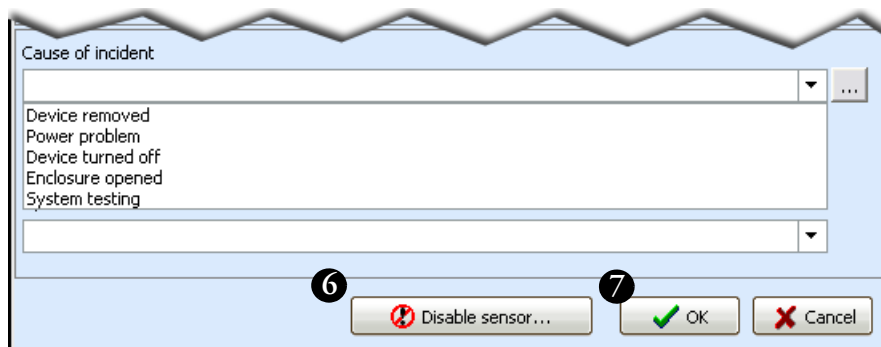

Figure 80. Select a cause to acknowledge an alarm
4. If necessary, you may click on Disable sensor (#6 in Figure 80) to turn off the sensor before closing the alarm acknowledgement